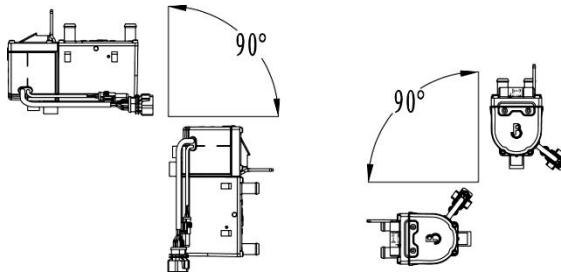

Fig. 4
4.2.3 Choice of position for installation of the heater shall facilitate release of air from the water pipe. It is allowed to incline to suit different arrangements for installation, but deviation from the “normal installation position” shall not exceed 90°, as shown in Fig. 4. Normal position is horizon and the exhaust pipe vent down.